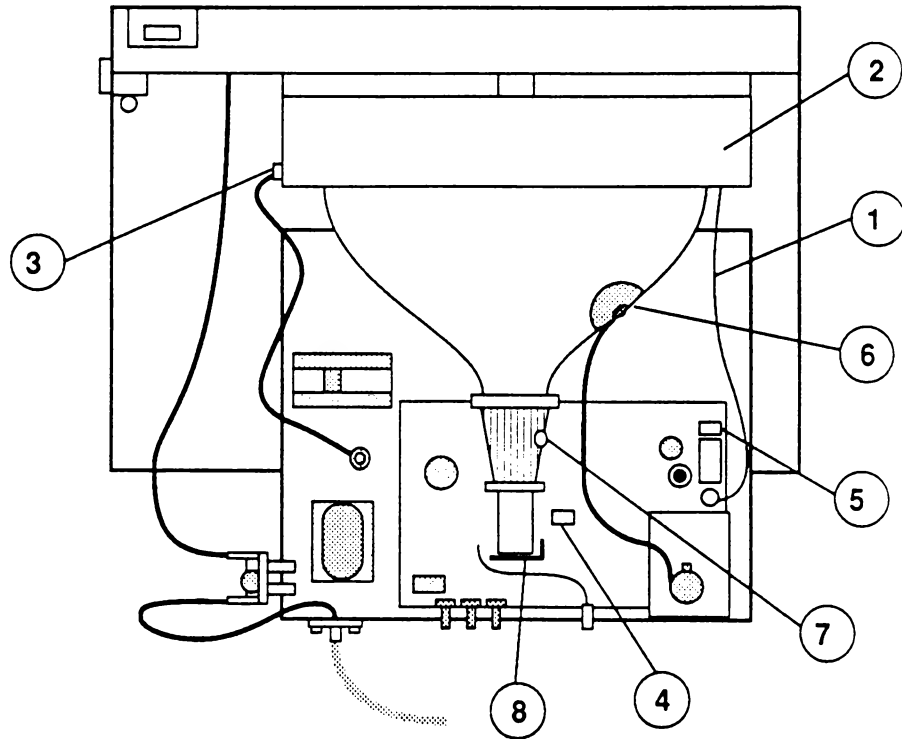

FIGURE 15
2. Replace the top-left mounting screw first, then the top-right screw, making sure that the antistatic shield finger plate is in place (it should touch the CRT) and that the black ground wire (Figure 15, #1) from the right side of the main electronics assembly is also attached to the same screw. Then replace the two bottom mounting screws.
4. Reinstall the top ground shield (Figure 15, #2) with its five mounting screws.
5. Replace the screw (Figure 15, #3) that secures the chassis ground wire to the left side of the top shield.
6. Connect the green/white wire from the yoke to the V-DY connector (Figure 15, #4) and the brown/gray wire to the H-DY connector (Figure 15, #5) on the main electronics assembly.
7. Replace the anode cap (Figure 15, #6).
8. If the yoke has been removed, replace it by sliding the new yoke over the neck of the CRT and tightening the yoke screw (Figure 15, #7).
9. Reinstall the CRT socket (Figure 15, #8).